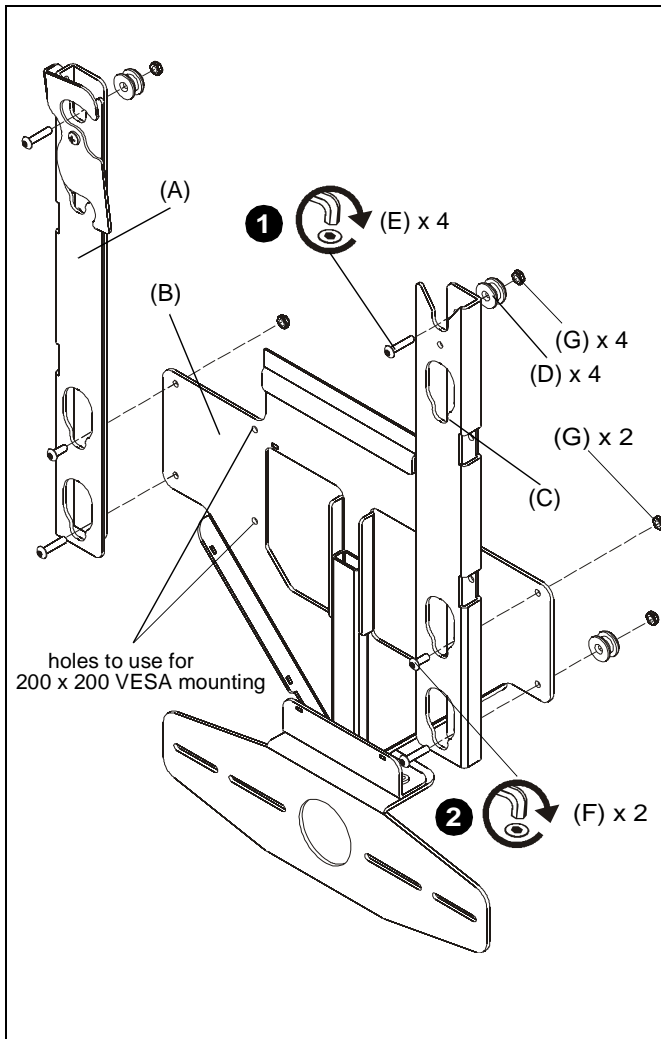

Figure 1
The PACCC1 is designed to accommodate both 200 x 200 VESA and 14" x 14" display mounting patterns. If 200 x 200 pattern is required use the inner mounting holes when installing uprights (A and C). (See Figure 1)
1. Install four mounting buttons (D) to uprights (A and C) and center plate (B) using four #10-24 x 7/8" button head cap screws (E) and four #10-24 lock nuts (G). (See Figure 1)
2. Finish connecting uprights (A and C) to center plate (B) using two #10-24 x 1/2" button head cap screws (F) and two lock nuts (G). (See Figure 1)
4. Finish connecting uprights to center plate (B) using two #10-24 x 1/2" button head cap screws (F) and two lock nuts (G) as shown in Step 2 of the "PACCC1 alone" section. (See Figure 1)